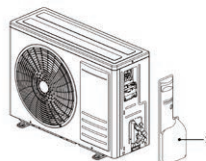

fig. 23 -
1. Retire o painel lateral (1 - "fig. 23 -").